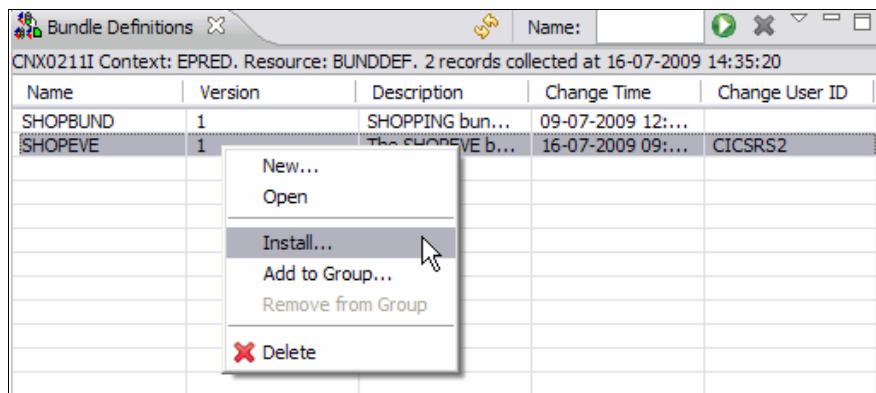

Figure 5-26 Installing the SHOPEVE bundle resource
2. Install the SHOPEVE bundle resource. In the Bundle Definitions view (Figure 5-26) right-click the SHOPEVE bundle and click **Install**.